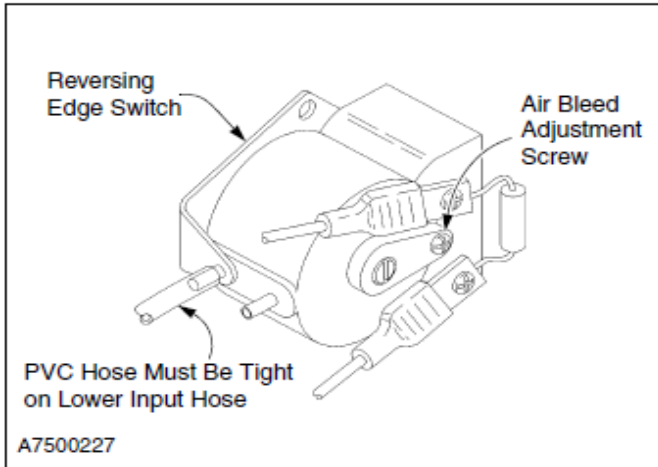

Figure 47
2. Make sure the clear PVC hose is in tight contact with the air input post so that air leakage cannot occur and that vibration will not cause the hose to fall off. Make sure the hose is not kinked. (See Figure 47)
3. The air bleed has been set at the factory and should not require adjustment. To check the air bleed, turn the air bleed adjustment screws located on the front and back of the switch fully clockwise but do not overtighten. Then turn the screws back counter-clockwise one full turn. (See Figure 47)